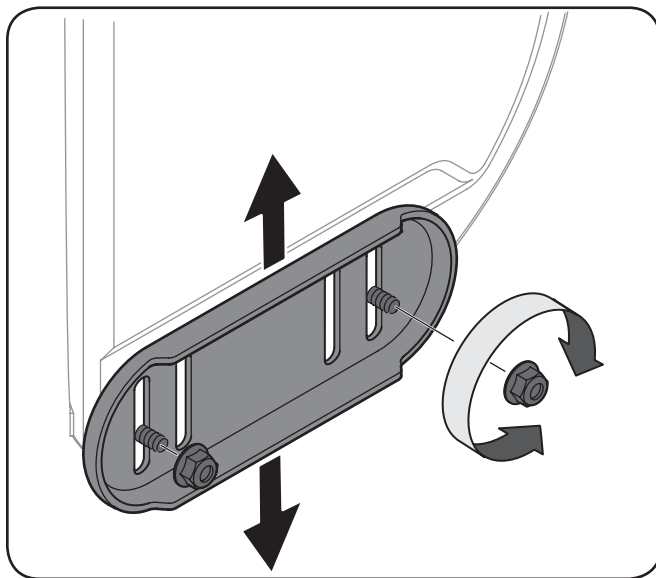

Figure 3-12
1. Loosen the four hex nuts (two on each side) and carriage bolts. Move skid shoes to desired position. See Figure 3-12.